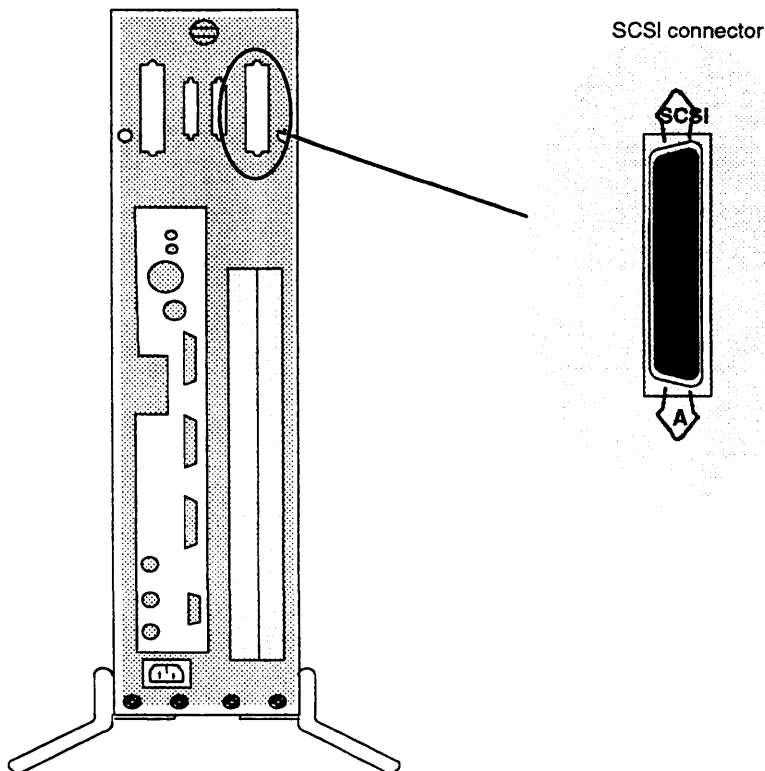

Figure 2-15 AViiON 410, 412, 4100, and 4300 Series SCSI Bus Connector
5. Locate the CHAMP terminator plug, Data General number 005-033334, and the SCSI rear panel connector shown in Figure 2-15.